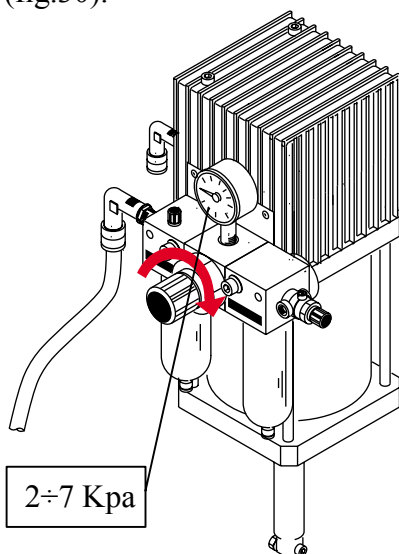

Fig.30
9) At this point according to the viscosity of the product take the air pressure between 2 and 7 Kpa by rotating the regulator ring nut in a clockwise direction (fig.30).
- Fig.30 indicates the position in which the general plate is to be found with all details.